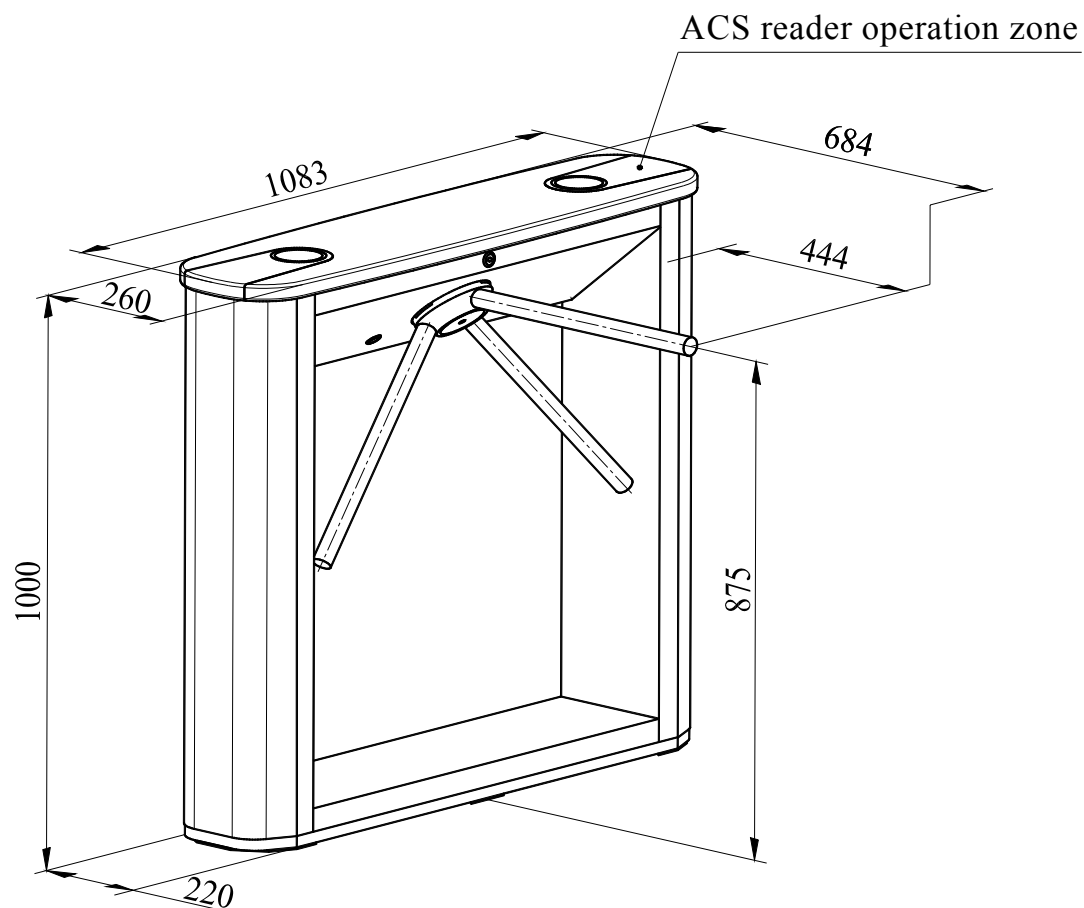

Fig. 2. TTD-03.1 box tripod turnstile. Overall dimensions
5.1.10. The turnstile housing cover has radio transparent covering, which allows concealed mounting of the ACS readers inside the turnstile housing. The reader operation zone is marked out with colour. (See Fig. 2).